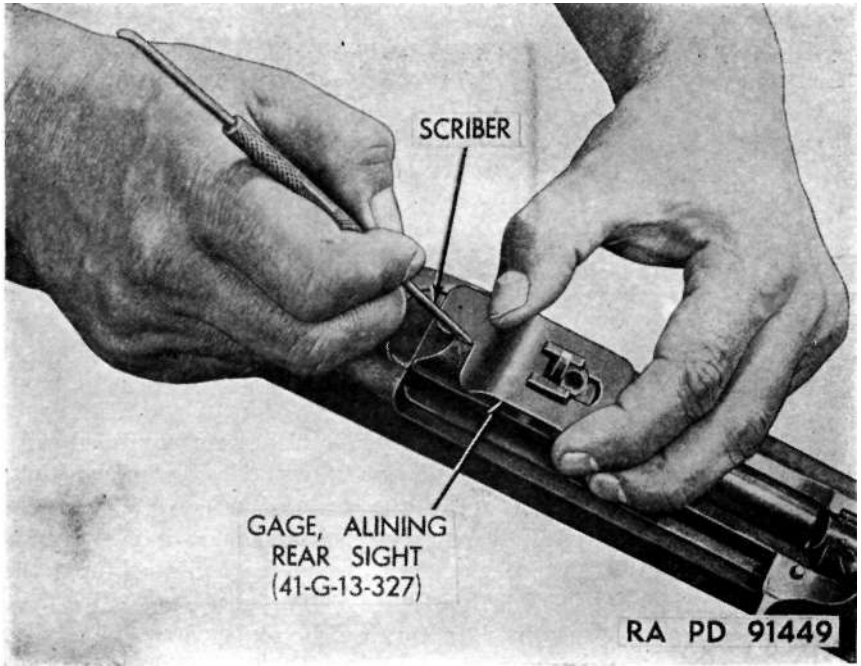
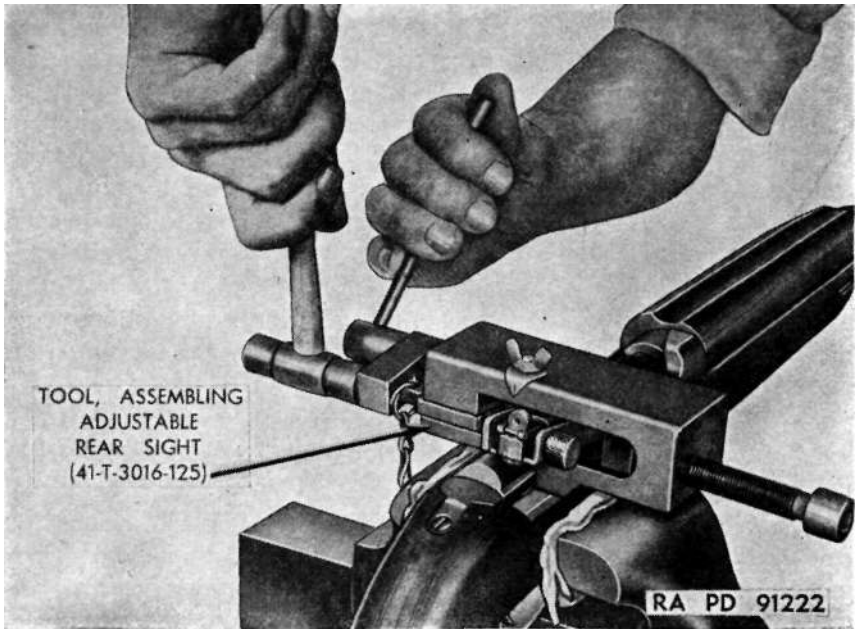

Figure 37. Scribing mark for replacement of rear sight.
Figure 38. Removing rear sight.
b. L-TYPE REAR SIGHT. To remove the L-type rear sight assembly used on carbines of early manufacture, clamp rear end of receiver in a jaw protected vise. Place rear sight aligning gauge over L-type sight and make a scribe mark on rear of receiver (fig. 37), for use as an alignment mark for installing new sight. Drift the old sight out of dovetail slot from left to right, using a brass drift. (Dovetail tapers to left. The letter "S" is stamped on the left face of the base to denote small end of taper. On carbines of recent manufacture the base is staked in place).
c. ADJUSTABLE REAR SIGHT. (1) Make a scribe mark on the receiver directly opposite long line on index plate for proper alignment in assembly.
(2) Place assembling tool on the receiver with the right-hand jack screw retracted to the extreme position and out of the way. (See fig. 38.)
(3) Remove sight by placing guide of assembling tool against the side of the sight, put connector in place in dovetail guide, and tighten left-hand jack screw. When pressure becomes excessive, tap connector with a brass hammer and take up slack until sight is removed.